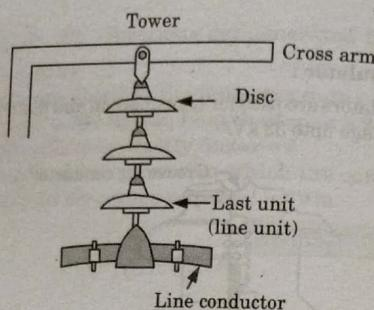

Fig. 3.10.2. String suspension insulator with 3 units.
- The overall string of suspension type insulator is shown in the Fig. 3.10.2.